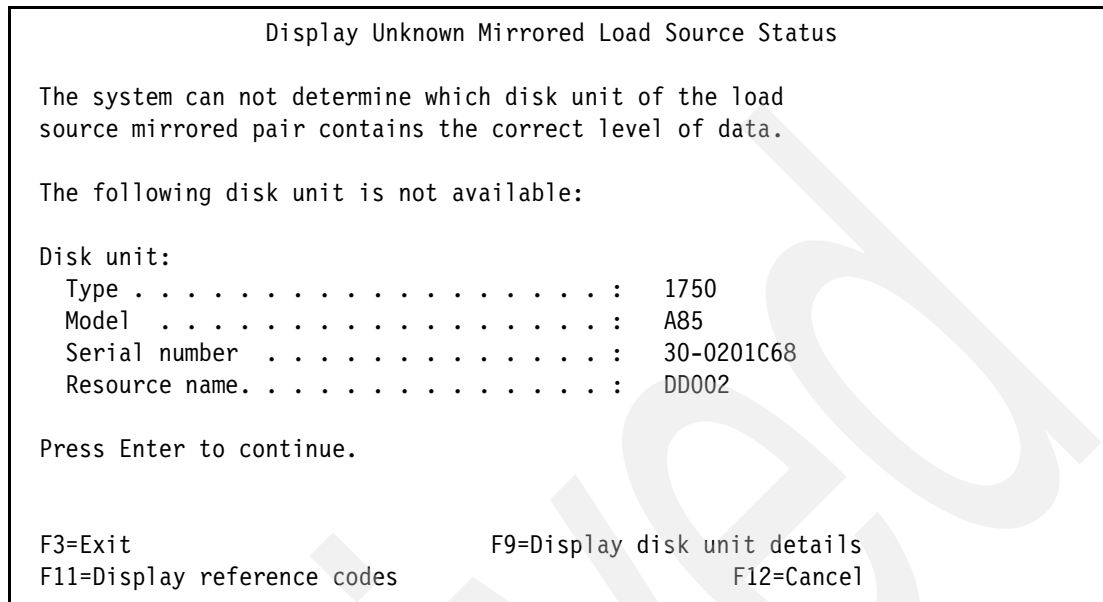

Figure 6-7 Display Unknown Mirrored Load Source Status panel
10. In the Display Unknown Mirrored Load Source Status panel, press Enter to continue and then press F3 to exit. See Figure 6-7.